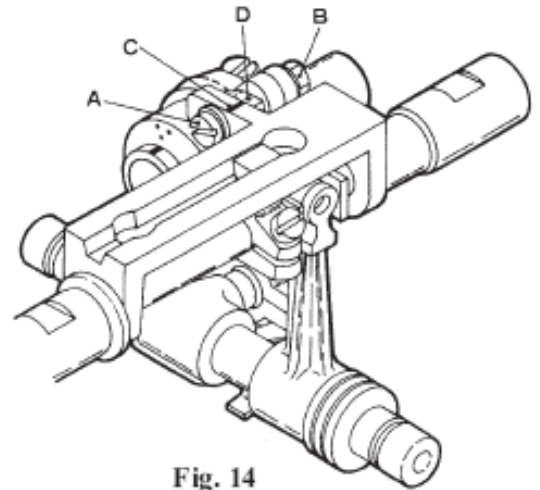

Fig. 14
Note: At the time of shipment, the avoiding movement of Loper has been adjusted suitably to the use of Needle (#65- 75). The standard adjustment is not suitable when using Needle of #80-90, adjust the avoiding movement of Loper according to the following procedure.*Fix Screw (A) of Loper Rocker Adjusting Pin by screwdriver after removing Crank Chamber Cover and loosen Nut (B), then adjust the avoiding movement by moving Loper Rocker Connecting rod back and forth. (See Fig. 14) Loper Bar Guide has the Mark (C). When the Countermark (D) on the Connecting Rod is moved to your side beyond Mark (C), the avoiding movement of Loper will increase and when moved to rear it will decrease. Troubles occurring by improper adjustment.*Too little avoiding movement of Loper will increase the degree of touch of Needle to the back of Loper and cause the destruction of needle point.